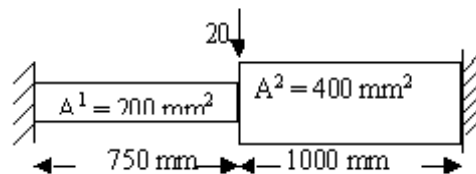

Figure 6
1. Calculate the deflection at the center of the fixed beam as shown in the figure6.